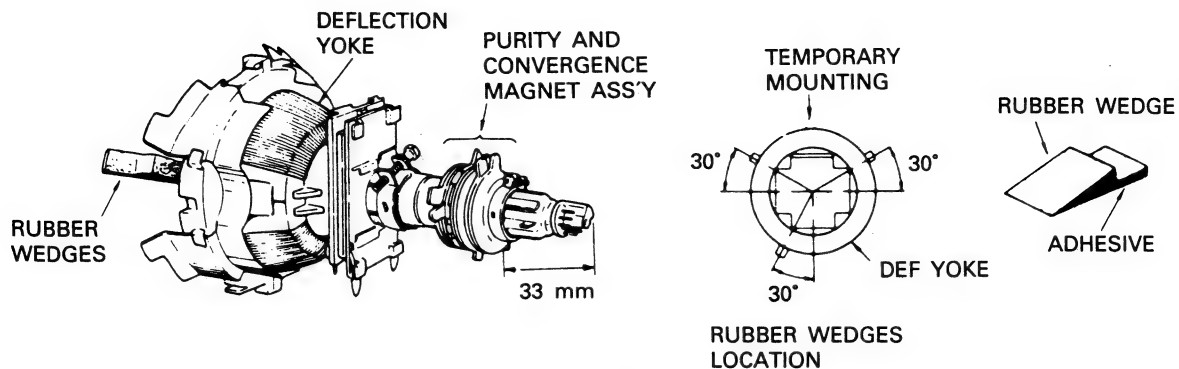

Figure 5.
2. Put a wedge as shown in figure 5. temporarily. (Do not remove cover paper on adhesive part of the wedge.)